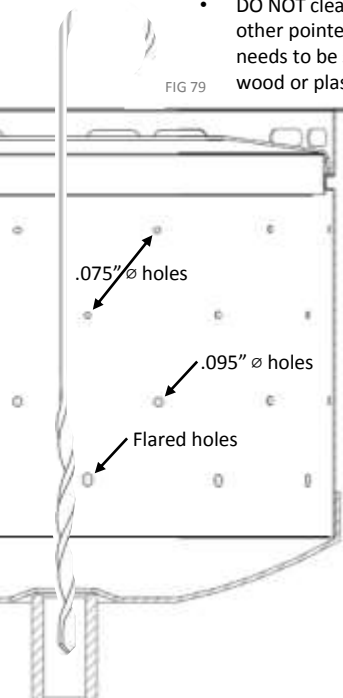

FIG 79
*See page 42, fig 79 for burner cleaning instructions*